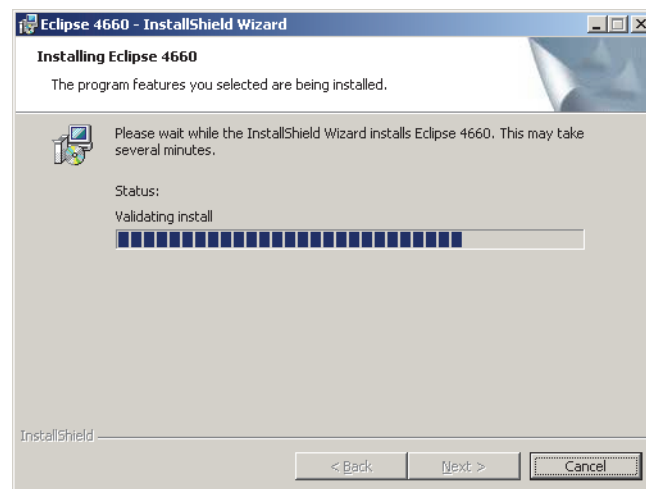

Figure 3.19. Installation progress
- The installation progress is indicated by the status bar on the next screen (Figure 3.19).